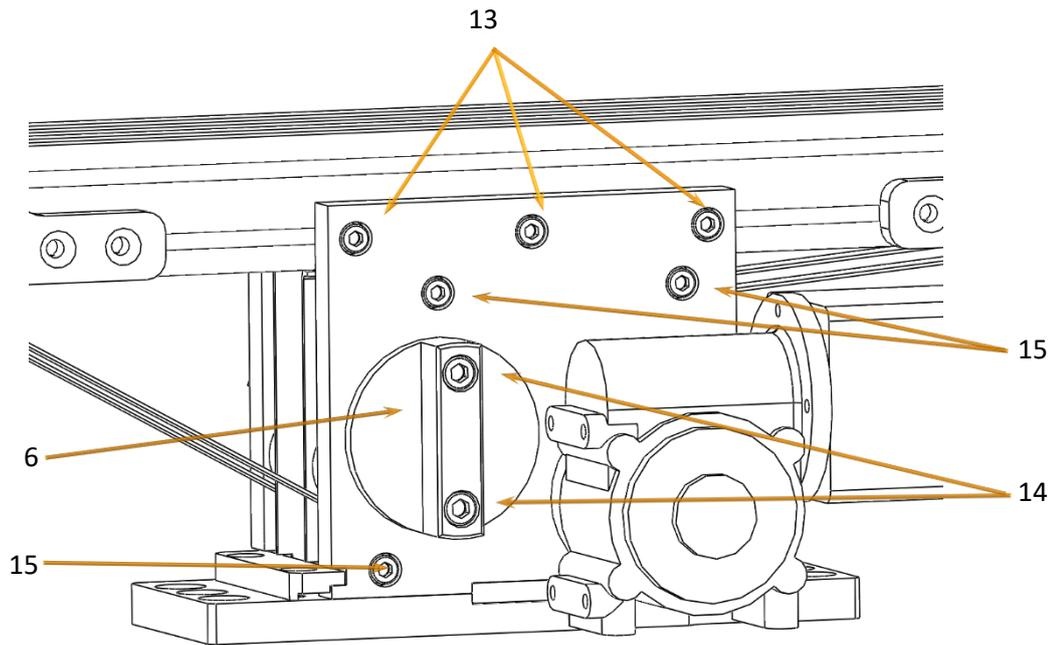
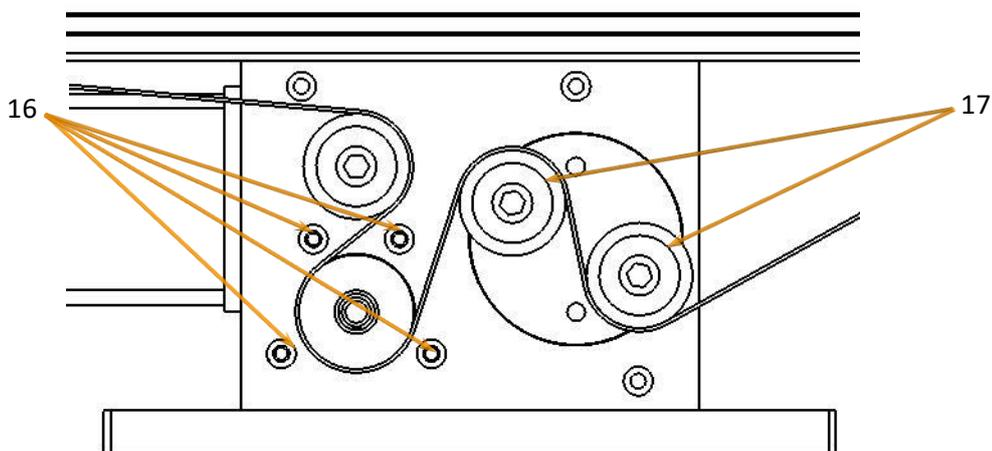

Fig. 7 Setting the transport belt position/belt tension
Fig. 9 Belt run
- Remove Allen hex head screws (item 15, cf. Fig. 7, page 15) at the support plate (4 mm hex head wrench) and remove the cover plate.
- Slacken Allen hex head screws (item 17, cf. Fig. 7) at the tensioning pulley (item 6, cf. Fig. 7) (5 mm hex head wrench) and turn clockwise. Remove the belt.
- Remove Allen hex head screws (item 16, cf. Fig. 9) (3 mm hex head wrench) and pull off gear motor (item 9, cf. Fig. 1) by hand.
- Install belt as shown in Fig. 9.
- Remove the Allen hex head screws (item 15, cf. Fig. 7, page 14) at the support plate (4 mm hex head wrench) and take off the cover plate.
- Slacken the Allen hex head screws (item 14) at the tensioning pulley (item 6) (5 mm hex head wrench) and turn the pulley clockwise.
- Install the new belt as shown in Fig. 9.
- Remove the Allen hex head screws (item 15, cf. Fig. 7) at the support plate (4 mm hex head wrench) and remove the cover plate.
- Slacken the Allen hex head screws (item 14, cf. Fig. 7) at the tensioning pulley (item 6) (5 mm hex head wrench) and turn the pulley clockwise. Remove the belt.
- Install the belt as shown in Fig. 9.
- Remove the Allen hex head screws (item 15, cf. Fig. 7, page 15) at the support plate (4 mm hex head wrench) and remove the cover plate.
- Slacken the Allen hex head screws (item 17, cf. Fig. 7) at the tensioning pulley (item 6, cf. Fig. 7) (5 mm hex head wrench) and turn the pulley clockwise. Remove the belt.
- Remove the Allen hex head screws (item 16, cf. Fig. 9) (3 mm hex head wrench) and pull off the gear motor (item 9, cf. Fig. 1) manually.
- Slip on new gear motor and tighten the screws. Install the belt as shown in in Fig. 9.